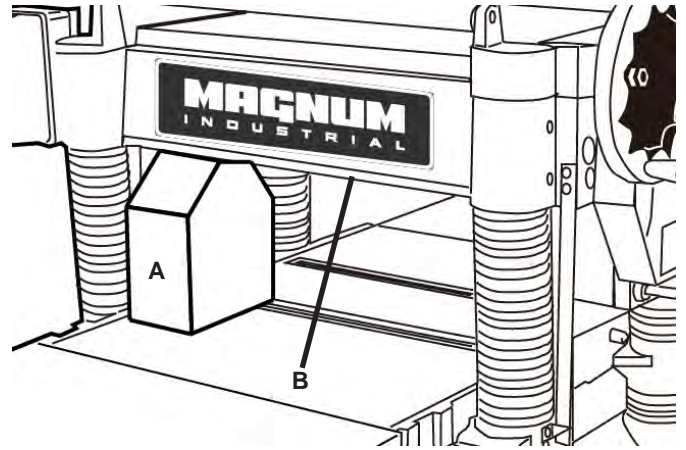

Fig 23
2. Place the gage block (A) Fig. 23 on the working table directly under front edge of head casting (B), Make slight contact by gently raising table as shown in Fig. 23.